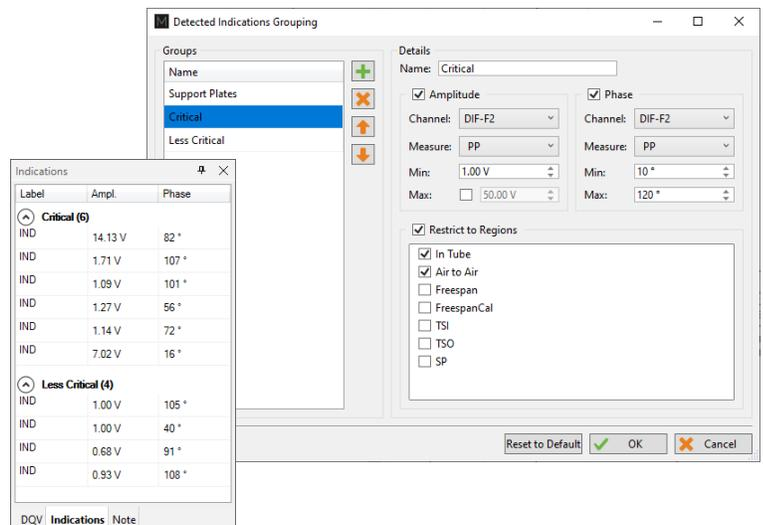

Figure 9: The grouping tool significantly enhances users' ability to swiftly identify critical indications by leveraging AI defect detection.
- Defect grouping identifies the most relevant indications to report based on user-defined criteria as shown in Figure 9.